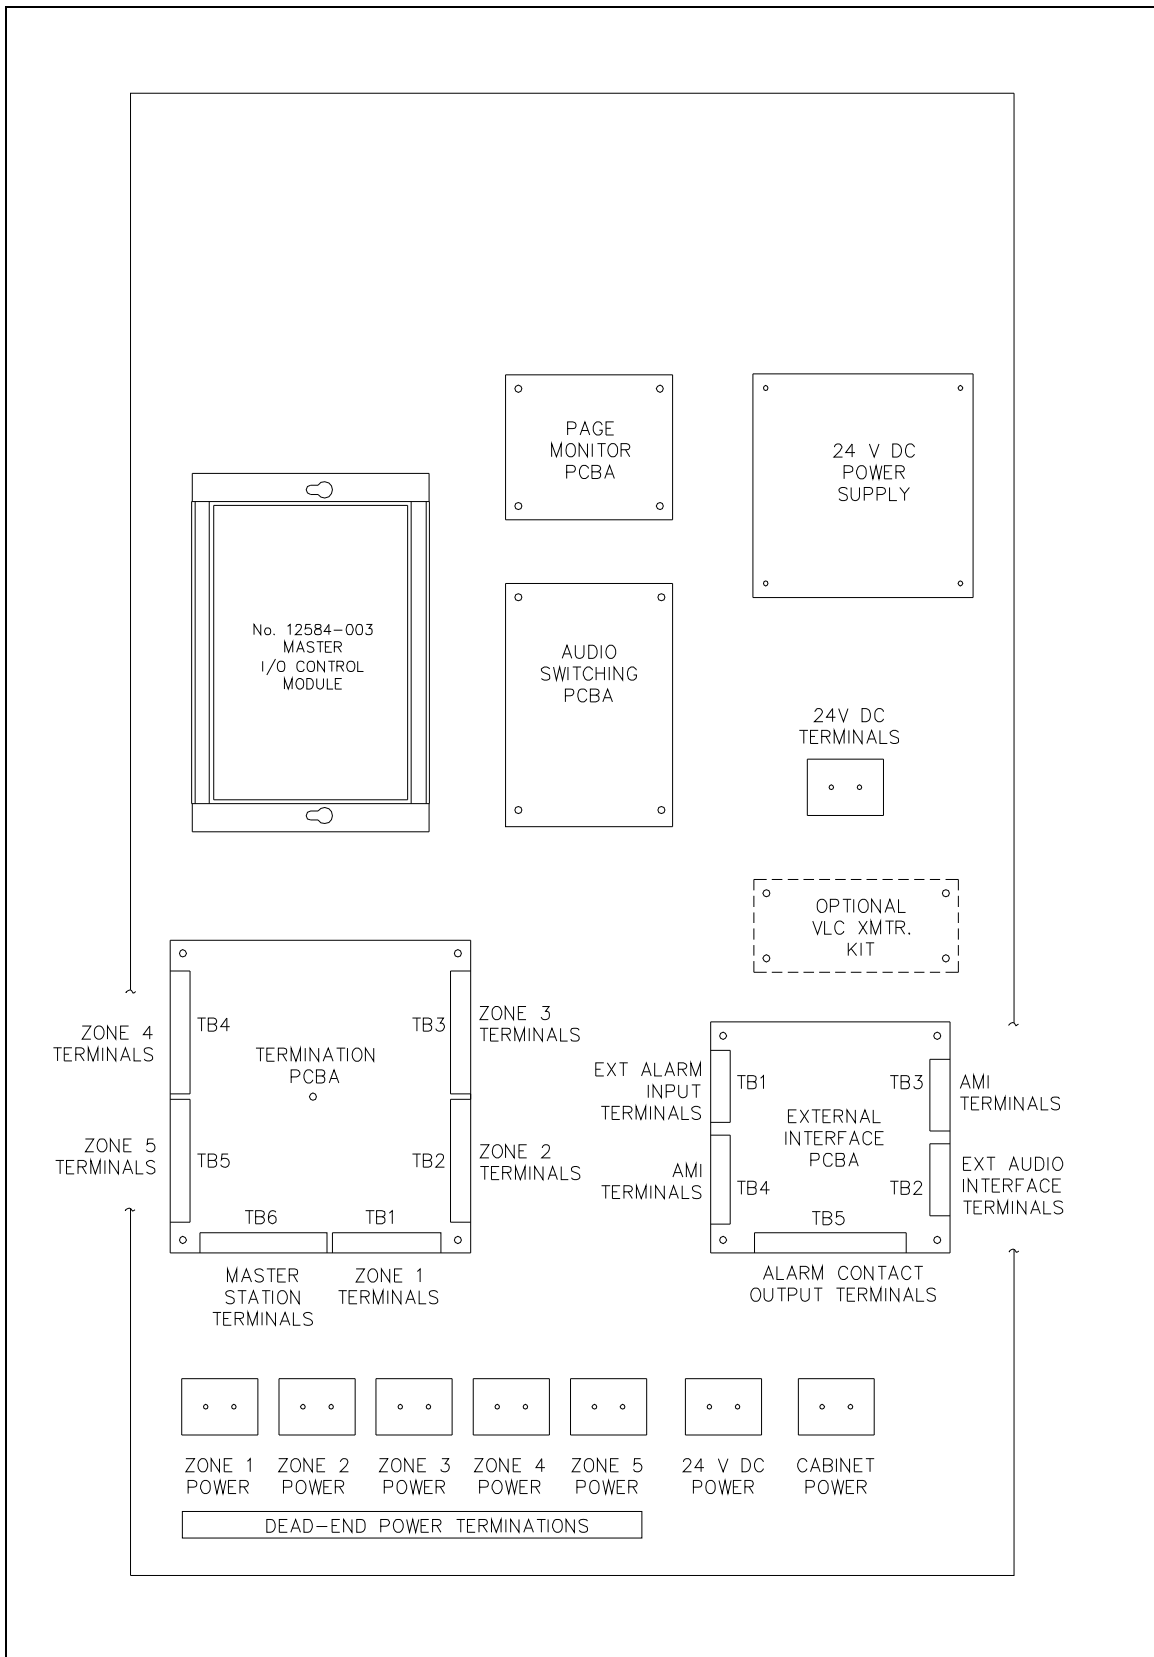

Figure 2. Merge/Isolate Cabinet Component Locations
1. Locate the Termination PCBA in the lower left corner of the cabinet. See Figure 2.
1. Locate the termination PCBA in the lower left corner of the cabinet. See Figure 2.
1. Remove the page line conductors from terminals 7 and 8 on the termination PCBA. See Figure 2 for the terminal block location in the master station.
1. Remove the zone page line conductors from terminals 1 and 2 on the termination PCBA. See Figure 2 for the terminal block location for each zone.